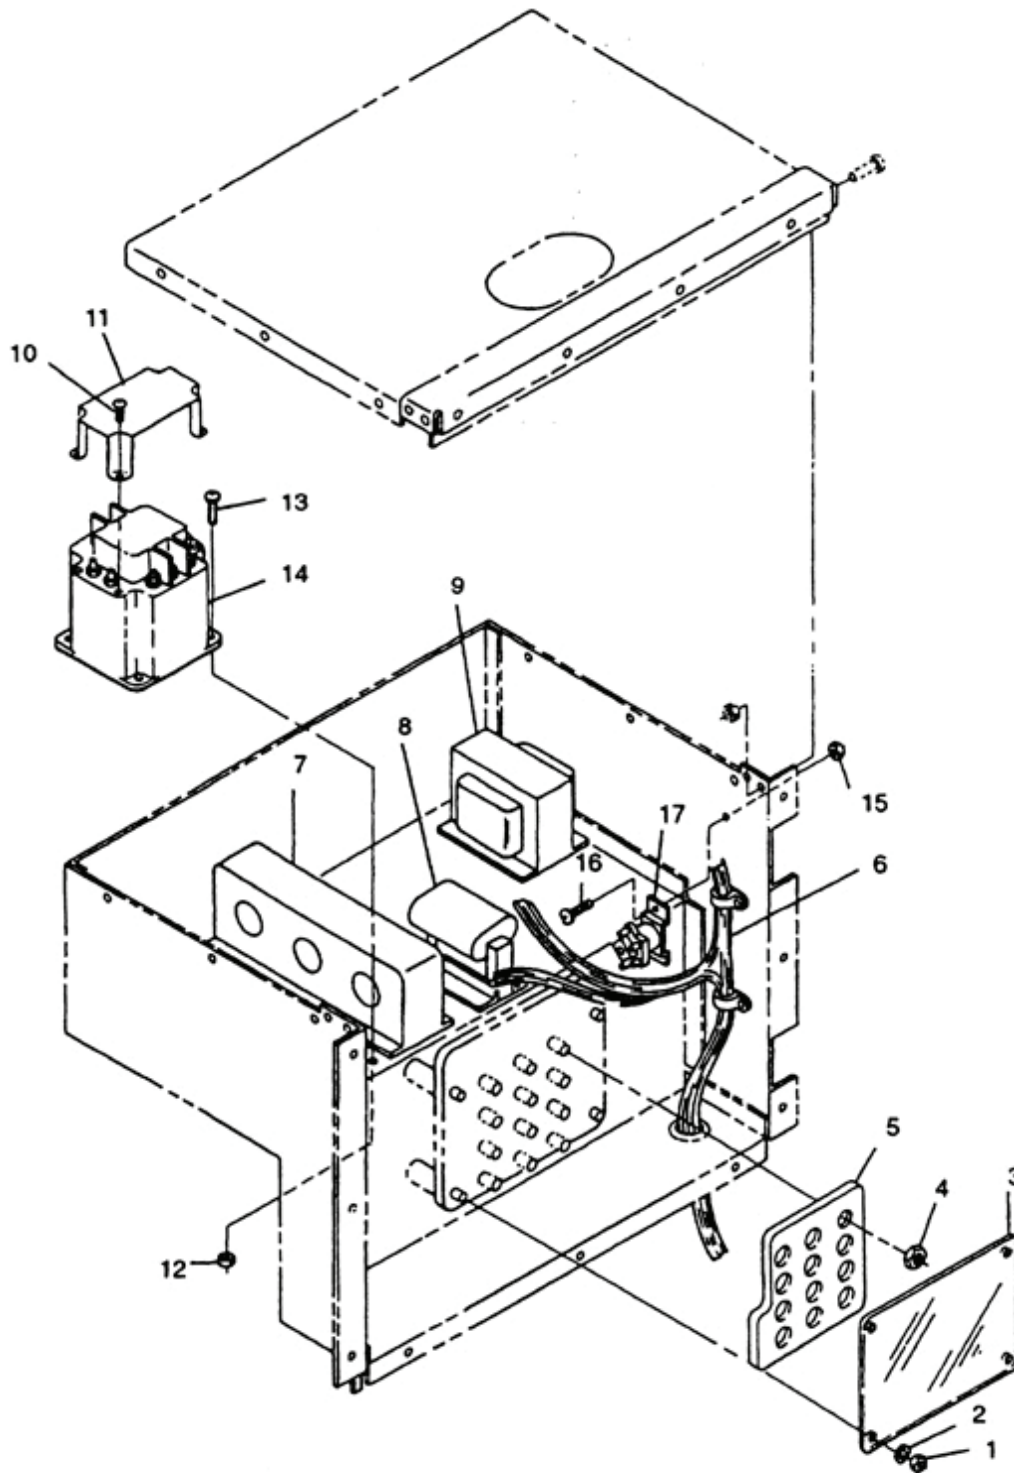

Figure 2-33. Output Box Assembly.
- c. Inspect protective cover (3, Figure 2-33) and moveable terminal board (5) for cracks, breaks, corrosion, and other damage.
- c. Remove nuts (1, Figure 2-33), washers (2), and protective cover (3) from voltage reconnection terminal board assembly.
- d. Remove nuts (4) and moveable terminal board (5) from voltage reconnection terminal board assembly.
- a. Install removable terminal board (5, Figure 2-33) on voltage reconnection terminal board assembly with nuts (4).
- b. Install protective cover (3) on voltage reconnection terminal board assembly with washers (2) and nuts (1).
- b. Inspect wiring harness (6, Figure 2-33) for burned, bent, corroded, and broken terminals.
- c. Inspect current transformer (7, Figure 2-33) for security, cracked housing, broken or stripped terminals, and loose or missing hardware.
- c. Tag and disconnect electrical leads from current transformer (7, Figure 2-33) secondary terminals.
- c. Inspect droop current transformer (8, Figure 2-33) for cracked housing, security, broken wire terminals, loose or missing hardware, and other damage.